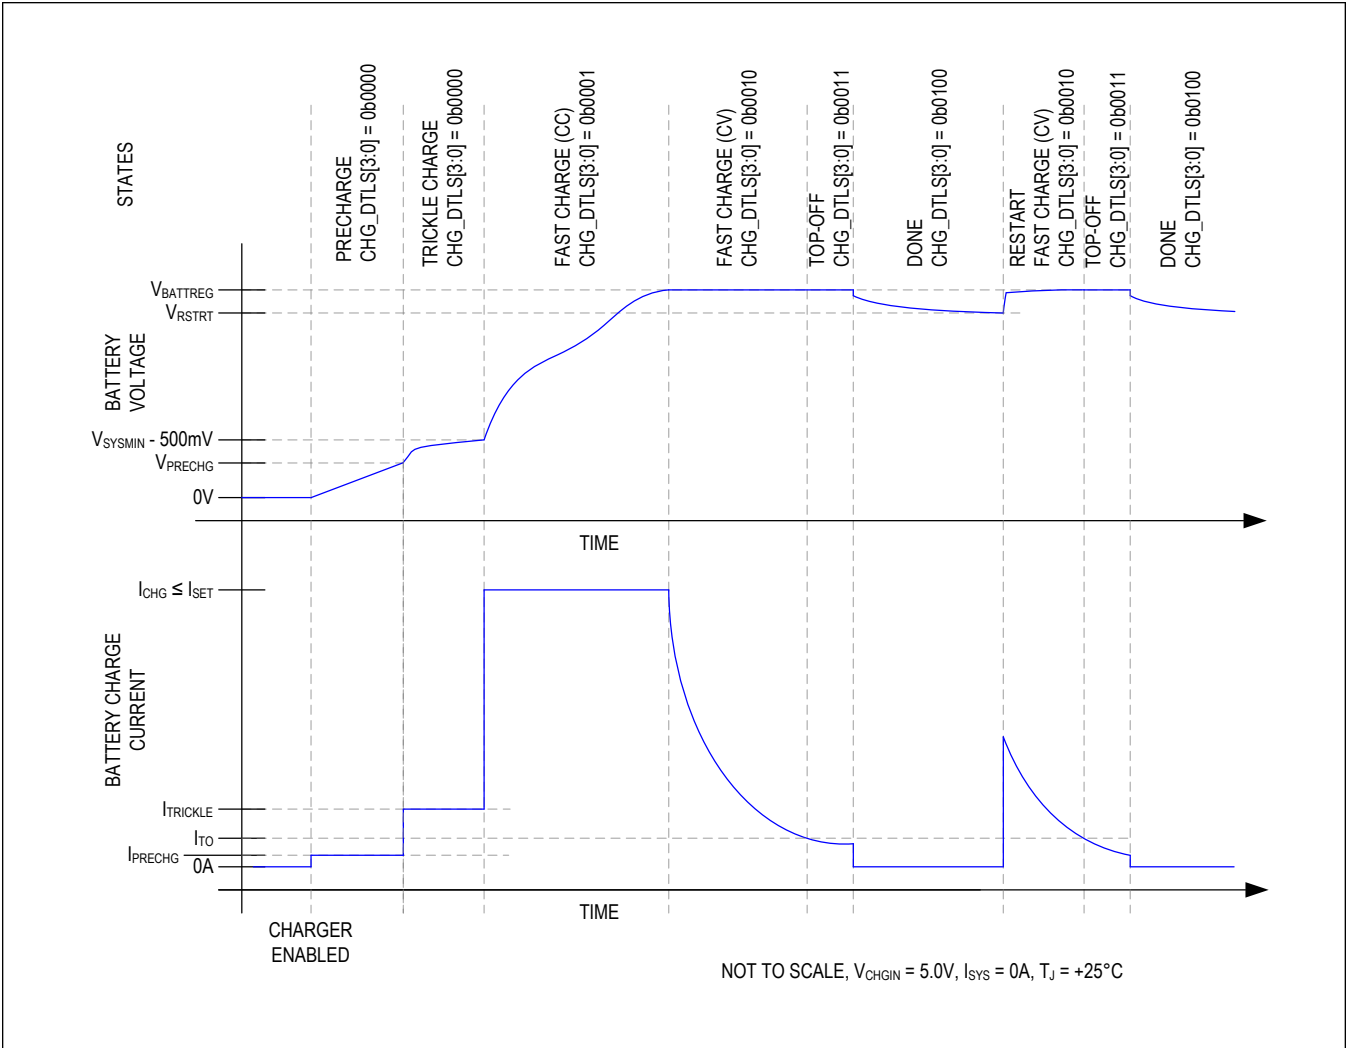
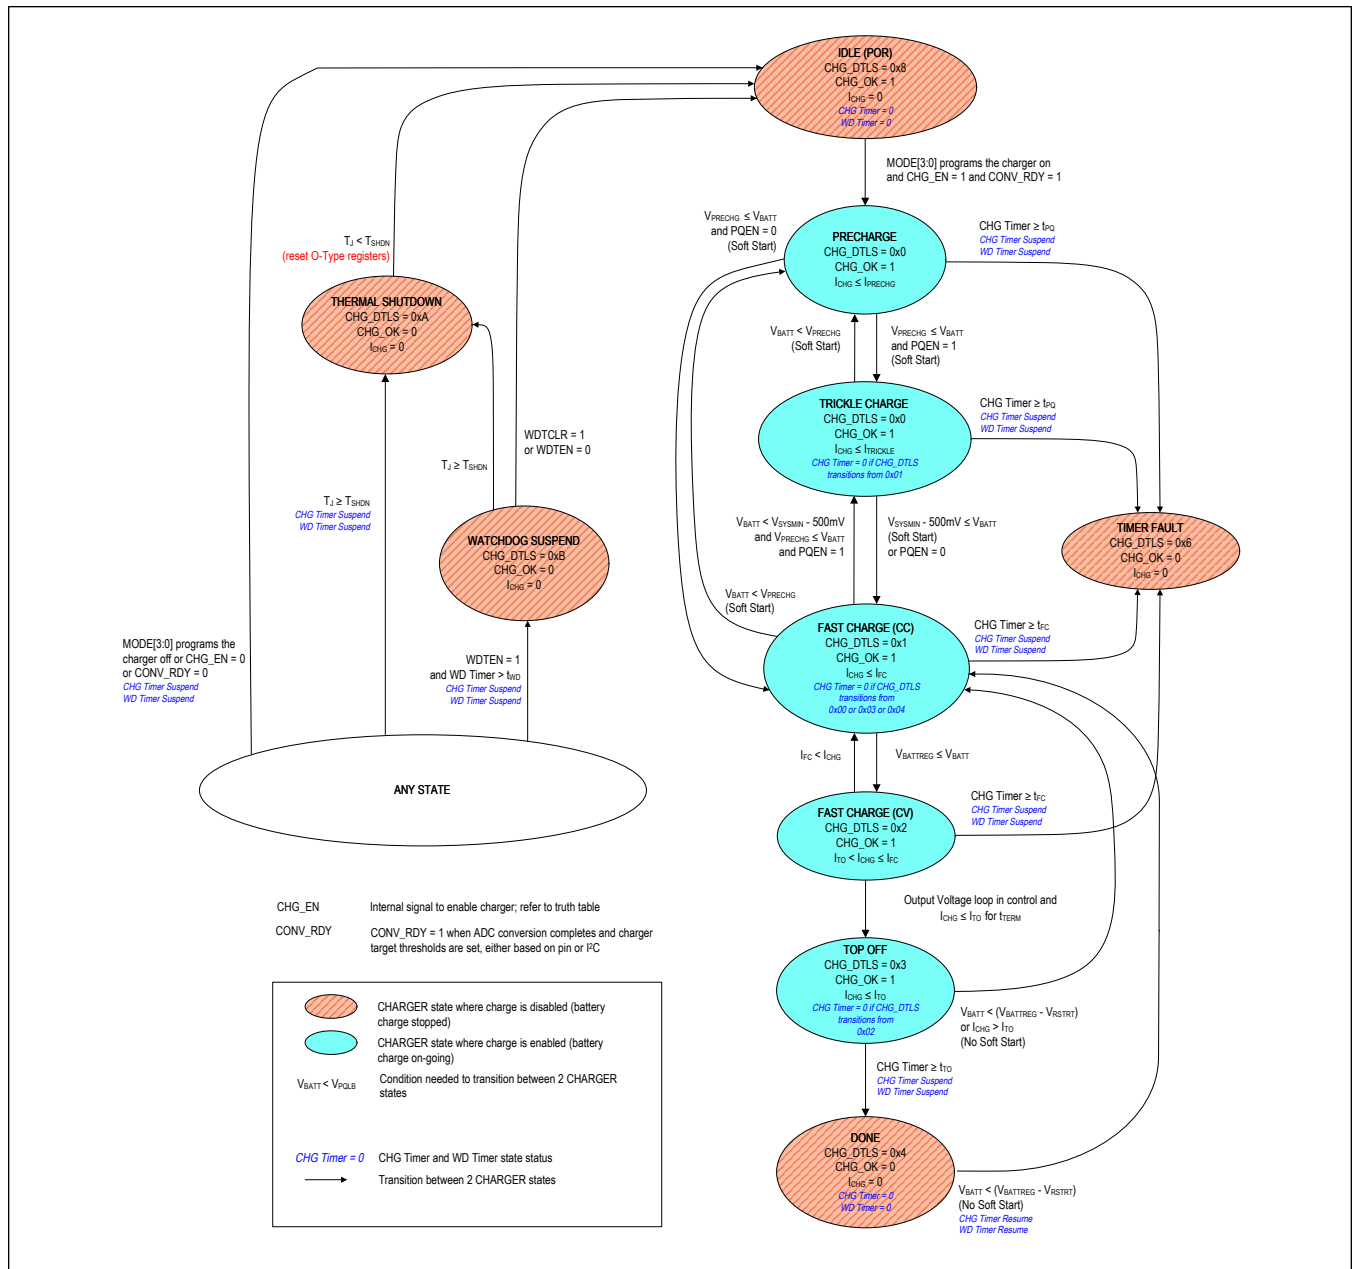

Figure 1. Li Battery Charge Profile
Figure 2. Charger State Diagram
The IC utilizes several charging states to safely and quickly charge batteries as shown in Figure 1 and Figure 2. Figure 1 shows an exaggerated view of a Li+/Li-Poly battery progressing through the following charge states when there is no system load and the die and battery are close to room temperature: Prequalification → Fast-charge → Top-off → Done.
From any state shown in Figure 2, except thermal shutdown, the “no input power or charger disabled” state is entered whenever the charger is programmed to be off or the charger input CHGIN is invalid. After being in this state for t_{SCIDG} , CHG_DTLS is set to 0x08 and CHG_OK is set to 1. A CHG_I interrupt is generated if CHG_OK was 0 previously.
As shown in Figure 2, the charger enters the precharge state when the battery voltage is less than V_{PRECHG} . After being in this state for t_{SCIDG} , a CHG_I interrupt is generated if CHG_OK was 0 previously, CHG_OK is set to 1, and CHG_DTLS is set to 0x00. In the precharge state, charge current into the battery is I_{PRECHG} .
As shown in Figure 2, the charger state machine is in trickle charge state when $V_{PRECHG} < V_{BATT} < V_{SYSMIN} - 500\text{mV}$. After being in this state for t_{SCIDG} , a CHG_I interrupt is generated if CHG_OK was 0 previously, CHG_OK is set to 1, and CHG_DTLS = 0x00.
As shown in Figure 2, the charger enters the fast-charge constant current (CC) state when $V_{SYS\ MIN} - 500\text{mV}$ (typ) < $V_{BATT} < V_{BATT\ REG}$. After being in the fast-charge CC state for t_{SCIDG} , a CHG_I interrupt is generated if CHG_OK was 0 previously, CHG_OK is set to 1, and CHG_DTLS = 0x01.
As shown in Figure 2, the charger enters the fast-charge constant voltage (CV) state when the battery voltage rises to $V_{BATT\ REG}$ from the fast-charge CC state. After being in the fast-charge CV state for t_{SCIDG} , a CHG_I interrupt is generated if CHG_OK was 0 previously, CHG_OK is set to 1, and CHG_DTLS = 0x02.
In the fast-charge CV state, the battery charger maintains $V_{BATT\ REG}$ across the battery and the charge current is less than or equal to I_{FC} . As shown in Figure 1, charger current decreases exponentially in this state as the battery becomes fully charged.
As shown in Figure 2, the top-off state can only be entered from the fast-charge CV state when the charger current decreases below I_{TO} for t_{TERM} . After being in the top-off state for t_{SCIDG} , a CHG_I interrupt is generated if CHG_OK was 0 previously, CHG_OK is set to 1, and CHG_DTLS = 0x03. In the top-off state the battery charger maintains $V_{BATTREG}$ across the battery and typically the charge current is less than or equal to I_{TO} .
As shown in Figure 2, the battery charger enters its done state after the charger has been in the top-off state for t_{TO} . After being in this state for t_{SCIDG} , a CHG_I interrupt is generated only if CHG_OK was 0 previously, CHG_OK is set to 0, and CHG_DTLS = 0x04.
The battery charger provides both a charge timer and a watchdog timer to ensure safe charging. As shown in Figure 2, the charge timer prevents the battery from charging indefinitely. The time that the charger is allowed to remain in its prequalification states is t_{PQ} . The time that the charger is allowed to remain in the fast-charge CC and CV states is t_{FC} which is programmable with FCHGTIME. Finally, the time that the charger is in the top-off state is t_{TO} which is programmable with TO_TIME. Upon entering the timer fault state, a CHG_I interrupt is generated without a delay, CHG_OK is cleared, and CHG_DTLS = 0x06.
The charger is off in the timer fault state. The charger can exit the timer fault state when the charger is programmed to be off then on again through the MODE bits or when DISQBAT pin is toggled from L-H-L. Alternatively, the charger input can be removed and re-inserted to exit the timer fault state (see the “ANY STATE” bubble in Figure 2).
The battery charger provides both a charge timer and a watchdog timer to ensure safe charging. As shown in Figure 2, the watchdog timer protects the battery from charging indefinitely in the event that the host hangs or otherwise cannot communicate correctly. The watchdog timer is disabled by default with WDTEN = 0. Enable the feature by setting WDTEN = 1. With watchdog timer enabled, the host controller must reset the watchdog timer within the timer period (t_{WDP}) in order for the charger to operate properly. Reset the watchdog timer by programming WDTCLR = 0x01.
As shown in Figure 2, the state machine enters the thermal shutdown state when the junction temperature (T_J) exceeds the device's thermal-shutdown threshold (T_{SHDN}). When T_J is close to T_{SHDN} , the charger would have already folded back the input current to 0A (see the Thermal Foldback section for more details), so the charger and the DC-DC are effectively off. Upon entering this state, CHG_I interrupt is generated if CHG_OK was 1 previously, CHG_OK is cleared, and CHG_DTLS = 0x0A.